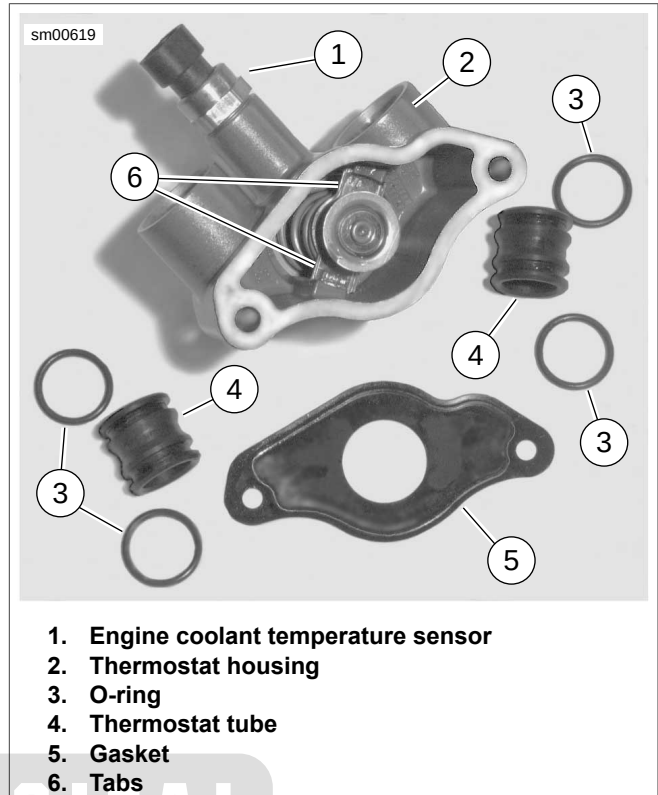
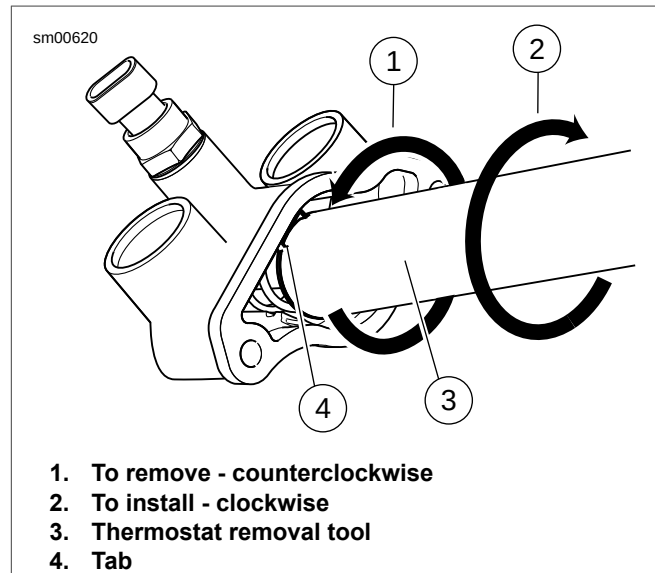

Figure 5-9. Thermostat and Housing
Figure 5-10. Thermostat Removal Tool
6. See Figure 5-9. Disconnect coolant temperature sensor (1) from wiring harness.
See Figure 5-9. The engine coolant temperature sensor (1) threads into the engine side of the thermostat housing.
7. Pull thermostat tubes (4) and O-rings (3) out of engine.
8. See Figure 5-10. To remove thermostat from housing, engage tabs on thermostat with slots of THERMOSTAT REMOVAL TOOL (Part No. HD-45307).
1. See Figure 5-10. To install **new** thermostat into housing, engage slots of THERMOSTAT REMOVAL TOOL (Part No. HD-45307) into tabs of thermostat while compressing thermostat spring. Turn tool 90 degrees clockwise (CW) to lock thermostat into housing.
2. See Figure 5-9. With **new** O-rings (3) on thermostat tubes (4), push tubes into engine case.
3. Connect ECT sensor (1) to wiring harness.
5. Orient **new** thermostat housing gasket (5) to mating surface on engine case.
6. Push housing pipe into pipe hose and over thermostat tubes (4). Fit housing (2) to engine case.